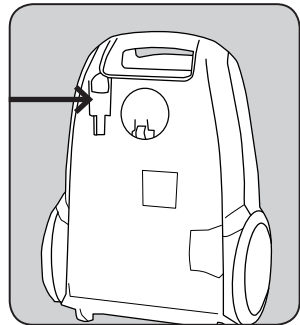

Fig. 3
2. The tab on the back of the tool caddy conveniently stores on the bottom of the vacuum (Fig. 3).